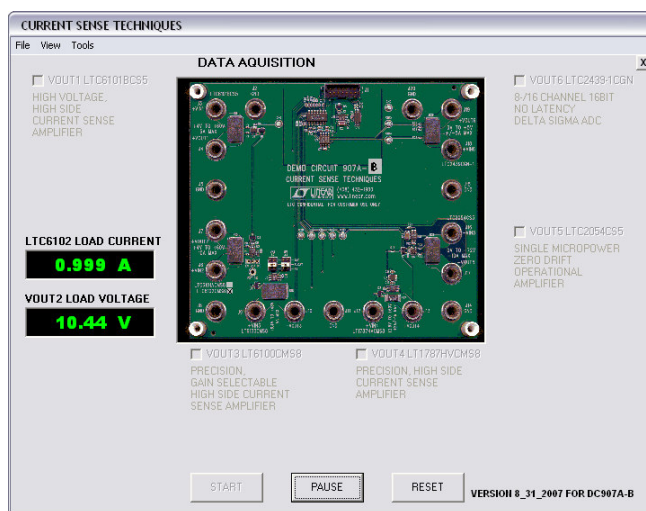

Figure 6. LTC6102 IsenseB.exe display (Current and Voltage at +VOUT2)
4. Mouse-click a check in the VOUT2 LTC6102CMS8 enable box and then mouse-click the START box to begin data-acquisition (with DC907A-A and Isense.exe, this field is labeled for the LTC6101ACMS8). The display will then show, as in Figure 6, a continuously updated current and voltage as furnished to the load connections. To suspend updating, mouse-click the PAUSE box. The RESET box returns the program to the initial setup state. A red readout represents an out-of-range result or condition that may be beyond safe limits. A yellow readout is acceptable, but indicates being near a limit. Green readouts are well within nominal conditions.